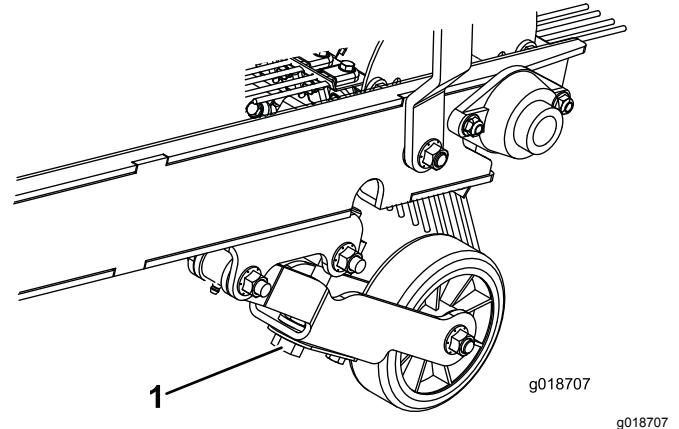

Figure 10
2. Turn the depth-adjustment bolt until the rake slightly contacts the top of the turf grass. If a broom is installed, slight contact should be made with the surface. When the broom is operating, the contact width surface should be about 25 mm (1 inch) wide across the entire length of the broom (Figure 10).